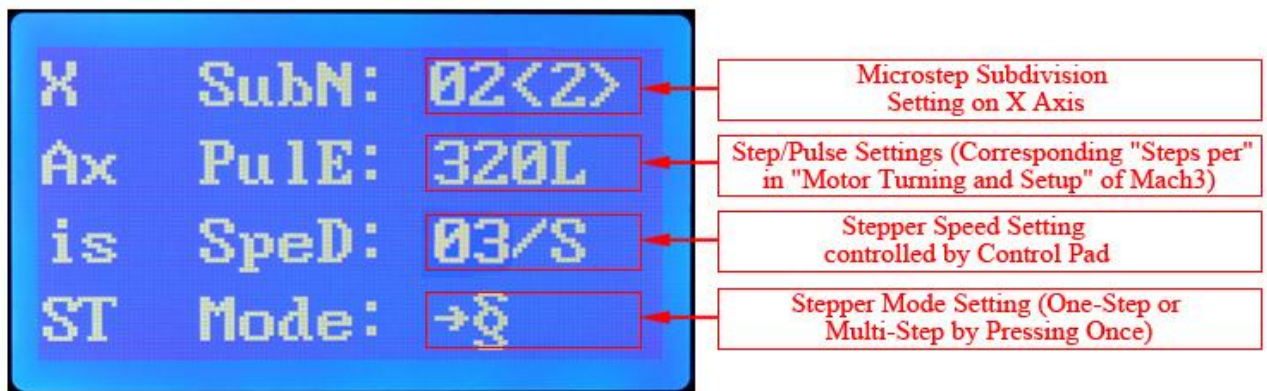

Figure 5: X Axis Running Parameters Setting
- After finishing “Main Function Setting”, please press the “ST” key on control pad again to skip to the “X Axis Running Parameters Setting” in “Figure 5”.